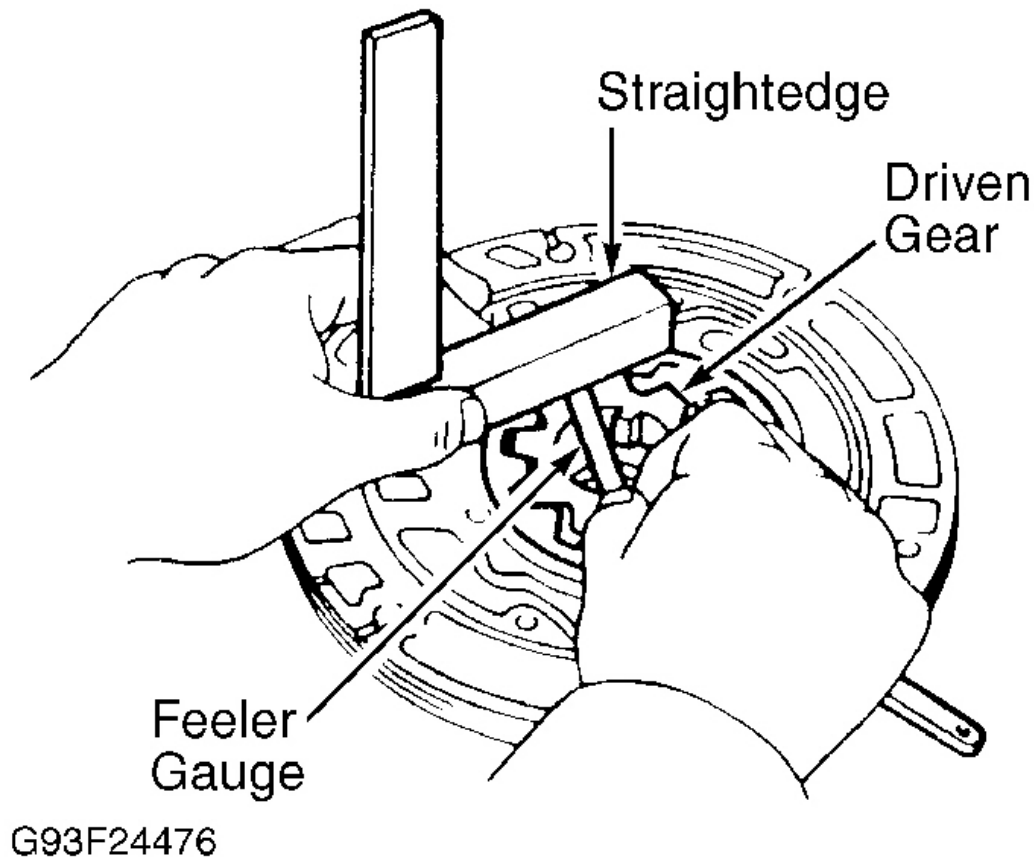

Fig. 33: Checking Oil Pump Gear Side Clearance
3. Using feeler gauge and straightedge, measure side clearance of both gears. See **Fig. 33** . Replace oil pump body if clearance is not within specification. See **OIL PUMP CLEARANCE SPECIFICATIONS** table. Gears are available in 3 different thicknesses. See **DRIVE & DRIVEN GEAR THICKNESS SPECIFICATIONS** table.